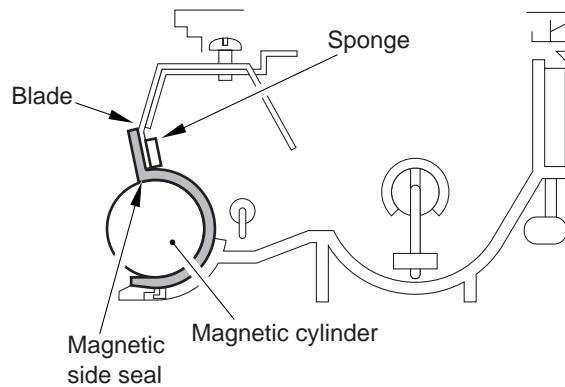

Figure 10-219
- 2) Fix the side magnetic seal at the position shown in Figure 10-219.